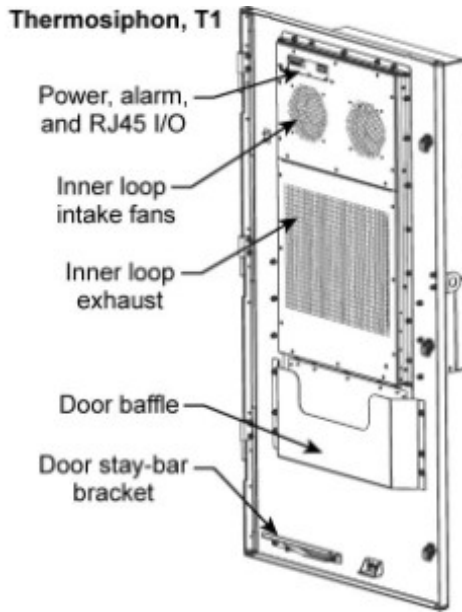

Figure 6. MSO AIO Cabinet Door Examples with Thermosiphon Units T1 per Table A
- With thermosiphon - Figure 6
A thermosiphon (Figure 6) lowers the inside cabinet temperature by means of a refrigerant liquid that absorbs heat from the interior heat exchanger of the unit and converts it to a gas. This exchange allows the gas to move into the exterior heat exchanger where it is converted back into a liquid that delivers heat out to exterior air.